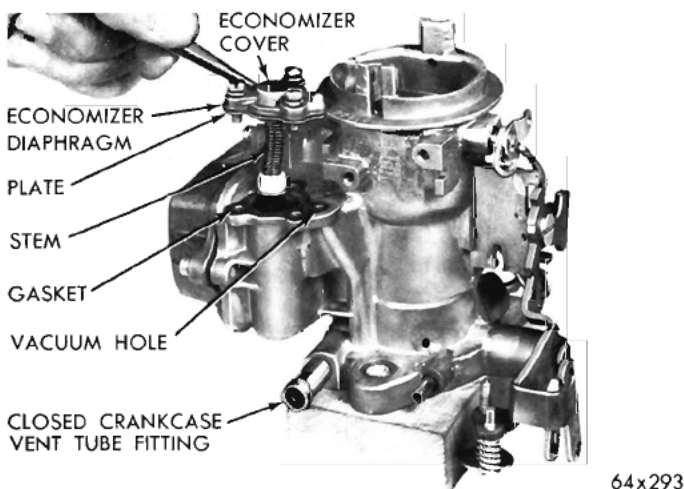

Fig. 5—Removing or Installing the Economizer
(6) Remove the economizer retaining screws, then lift economizer cover, diaphragm and stem out of the carburetor, as shown in (Fig. 5).